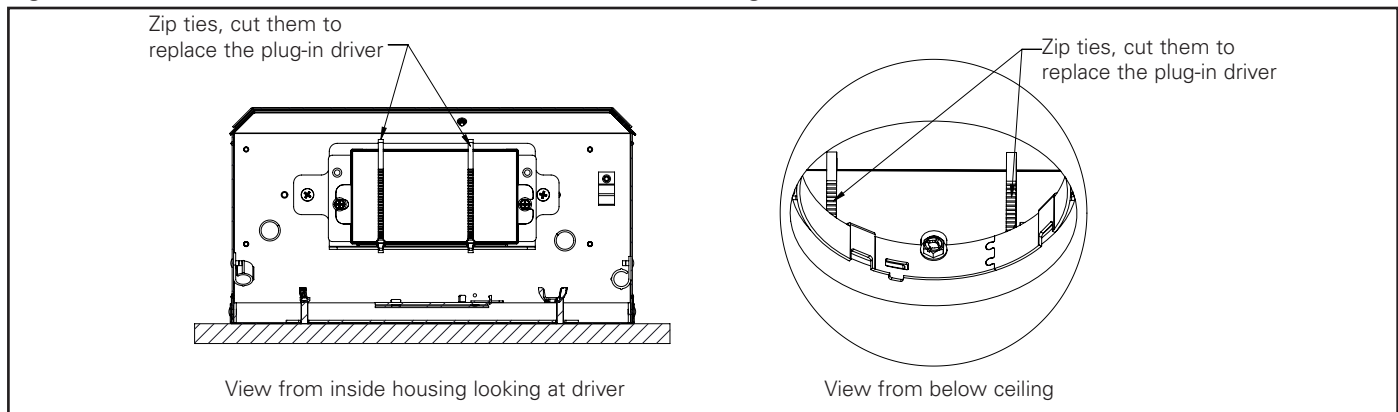

Figure 28.
7. Locate the two zip ties securing the plug-in driver (see Fig. 28) and cut them using a wire cutter